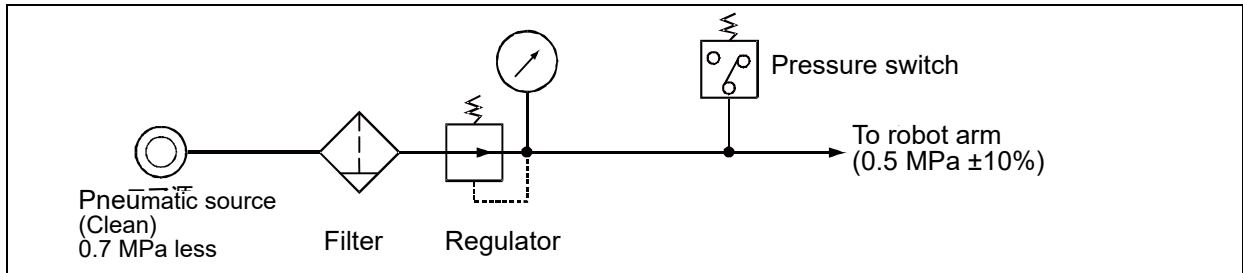

Fig.2-19: Air supply circuit example for the hand
Fig. 2-19 shows an example of the pneumatic circuit of air supply for the hand.
- (1) Make sure that a surge voltage protection circuit such as a diode is connected to the solenoid coil in parallel.
- (2) When the factory pneumatic pressure drops, as a result of the hand clamp strength weakening, there can be damage to the work. To prevent it, install a pressure switch to the source of the air as shown in Fig. 2-19 and use the circuit described so that the robot stops when pressure drops. Use a hand with a spring-pressure clamp, or a mechanical lock-type hand, that can be used in cases where the pressure switch becomes damaged.
- (3) If the air supply temperature (primary piping) used for the tool etc. is lower than ambient air temperature, the dew condensation may occur on the coupling or the hose surface.